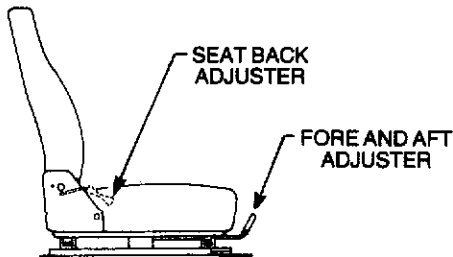

Figure 1-15 Seat adjustment
**Cabin seating (Fig. 1-15)**
**178.** The cabin seating is adjustable as illustrated in Fig. 1-15. The passenger's seat cushion must be removed to gain access to the battery.